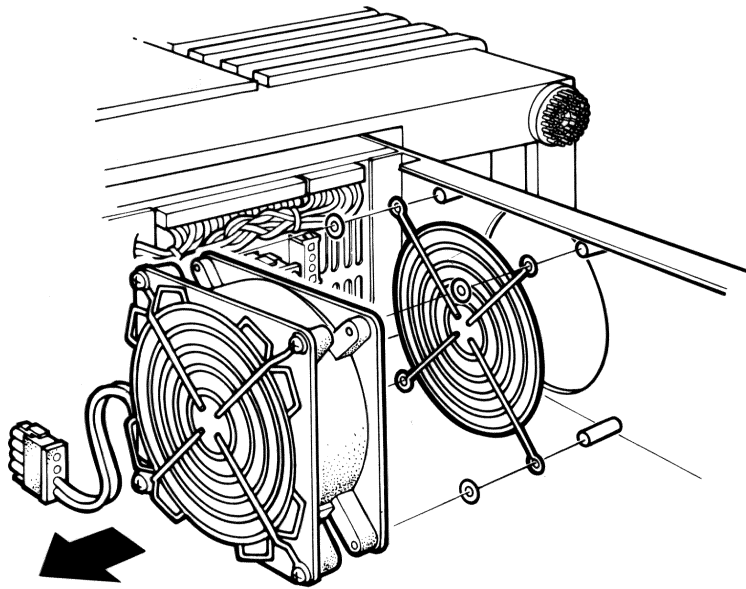

Figure 6-23 Front Fan Removal
6. Remove the four screws and spacers that hold the fan and fan guard to the chassis, and remove the fan. (Figure 6-23)